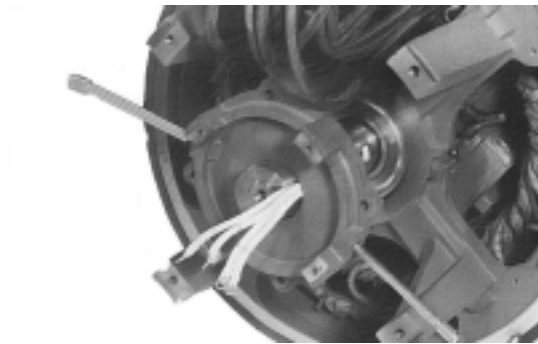
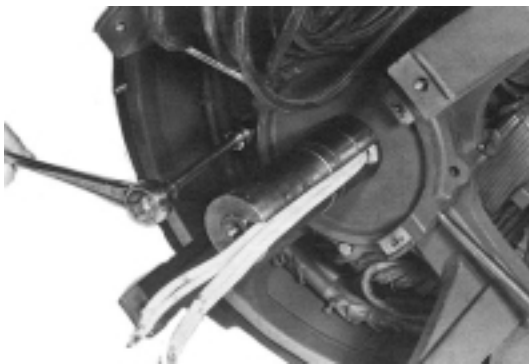

Figure 6-63
Figure 6-64
5. Install the outer bearing cap on the exciter end. (Figure 6-63.) Align holes in inner and outer bearing cap and install cap screws. Torque to 25 lb.-ft (34 N-M) (Figure 6-64.)